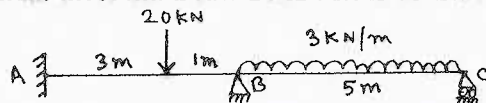

Fig.Q7
- 7 Analyze the continuous beam subjected to the loadings as shown in the Fig.Q7, using Claperons three moment theorem. Draw BMD.  $EI$  is constant throughout.